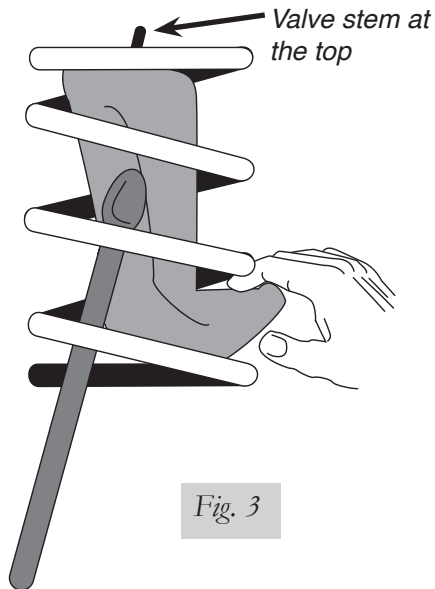

Fig. 3
4. Insert the flattened air spring into the coil spring through the lowest opening with the stem at the top (Fig. 3).